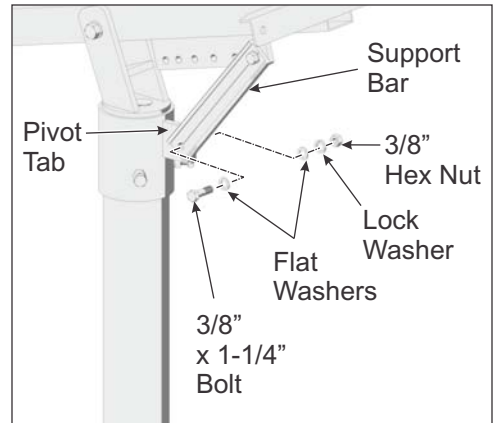

Figure 2-3: Securing Support Bar to Mounting Sleeve
- F. Pivot the Strongback and the Support Bar to align the mounting holes of the Support Bar with the Pivot Tab on the Mounting Sleeve. Insert the 3/8" x 1-1/4" bolt and one flat washer through the Support Bar and Mounting Tab and secure with the remaining flat washer, lock washer and hex nut. **Torque hardware on both ends of Support Bar at 32-34 ft.-lbs.** (See Figure 2-3)